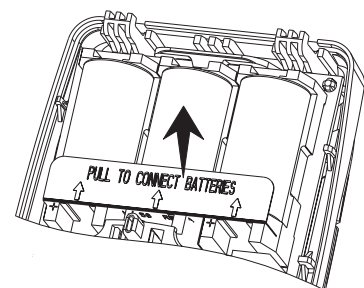

Figure 3. Remove Pull Tab to activate batteries
2. To *activate* the installed batteries, remove the battery pull-tab. (See Figure 3.) Make sure the batteries remain firmly seated in the battery holders.